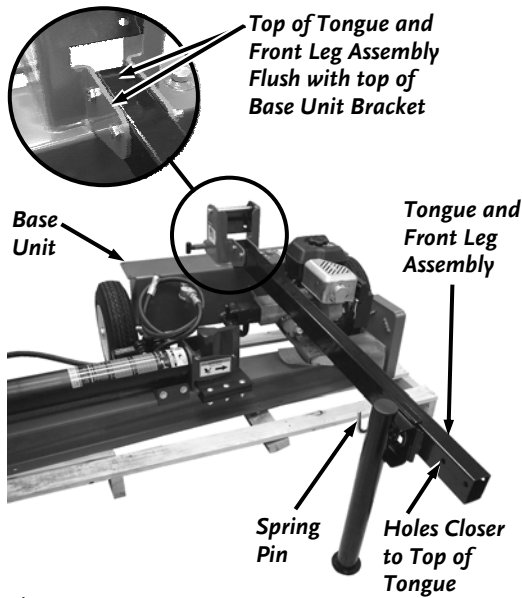

Figure 5
1. Before removing the base unit from the pallet, remove the tongue and front leg assembly from the pallet and fold the leg down and lock it into position with the spring pin. Install the tongue and front leg assembly onto the base using Two 1/2-13 x 3-1/2 inch long hex head bolts and Locknuts (**Figure 5**). Tighten the Locknuts securely. Pull the spring pin to fold the leg back in the up position. Roll the tongue/base unit off the pallet. Lower the front leg and lock it into position with the spring pin.